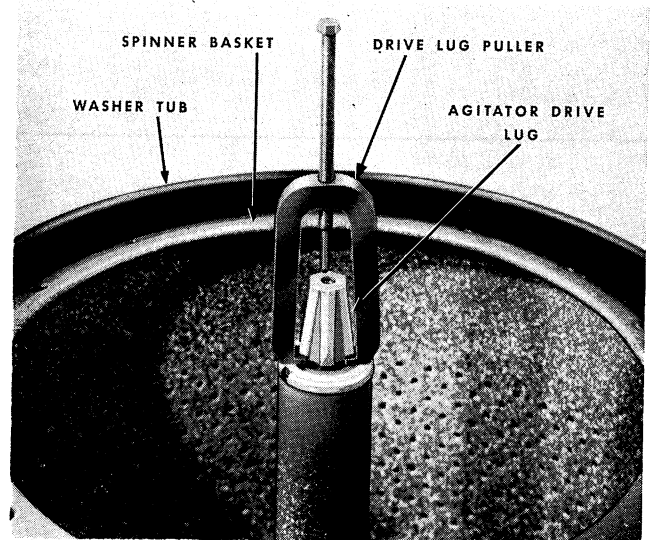

Figure 131
- 2) Unscrew the insert from the top of the agitator drive lug and remove the drive lug from the agitator shaft using the special drive lug puller, *Figure 131*. Heating drive lug with a torch will make removal much easier.